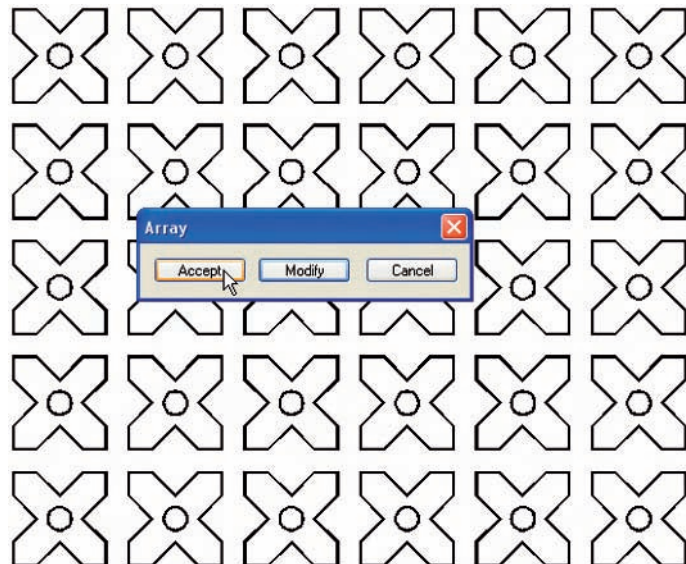

Fig. 5.18 First example – **Array**
5. Click the **Preview<** button. The dialog disappears and the array appears with a warning dialog in the centre of the array (Fig. 5.18).